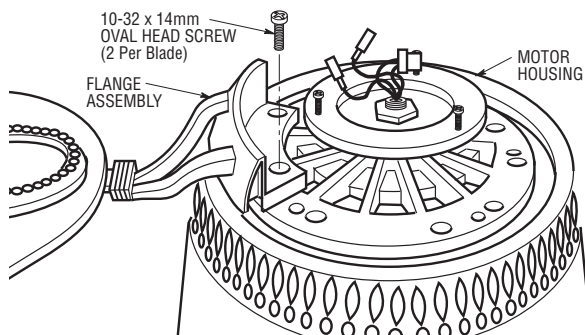

Figure 2
5. Loosely attach the flange assembly using two #10-32 x 14mm oval head screws (supplied) (Figure 2). Install the remaining four fan blades assemblies using the same procedure.